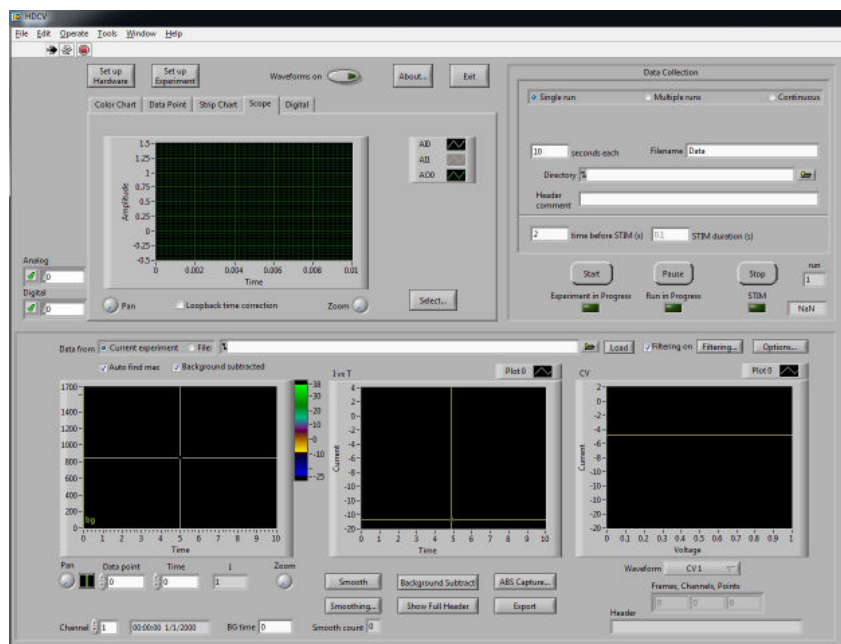

Figure 4-9: HDCV Application upon First Startup
3. After installation of the National Instruments software, the PCIe-6363 data acquisition device, and HDCV software, the HDCV software should be operational. Open the installation file folder for HDCV and select the HDCV application. HDCV can be started by double clicking on the application. After a few seconds, HDCV should appear on the monitor (see: Figure 4-9). If HDCV does not start please refer to troubleshooting or contact Pine Research Instrumentation.